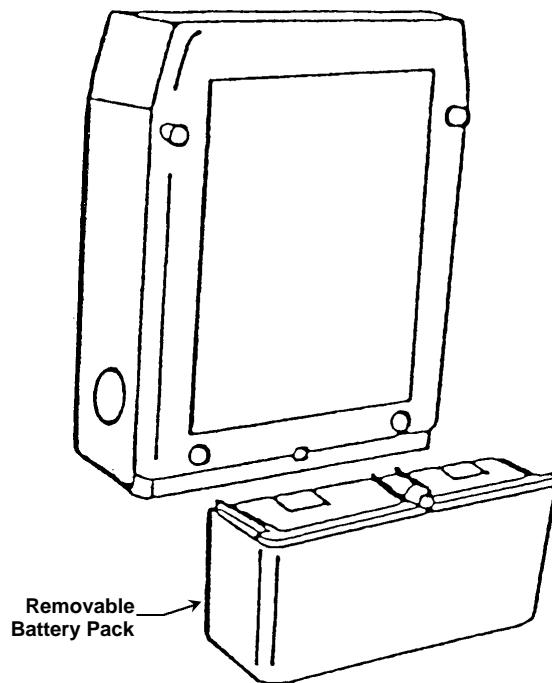

Figure 1-15: The removable Ni-Cad Battery Pack
- One NI-CAD battery pack, rechargeable. See Figure 1-15. The operating life depends upon the use and ambient temperature. CO2 and BRH smart blocks reduce operation life. Operating life with versions pump and smart block combinations is given in Table 4-2, in section 4 appendix.